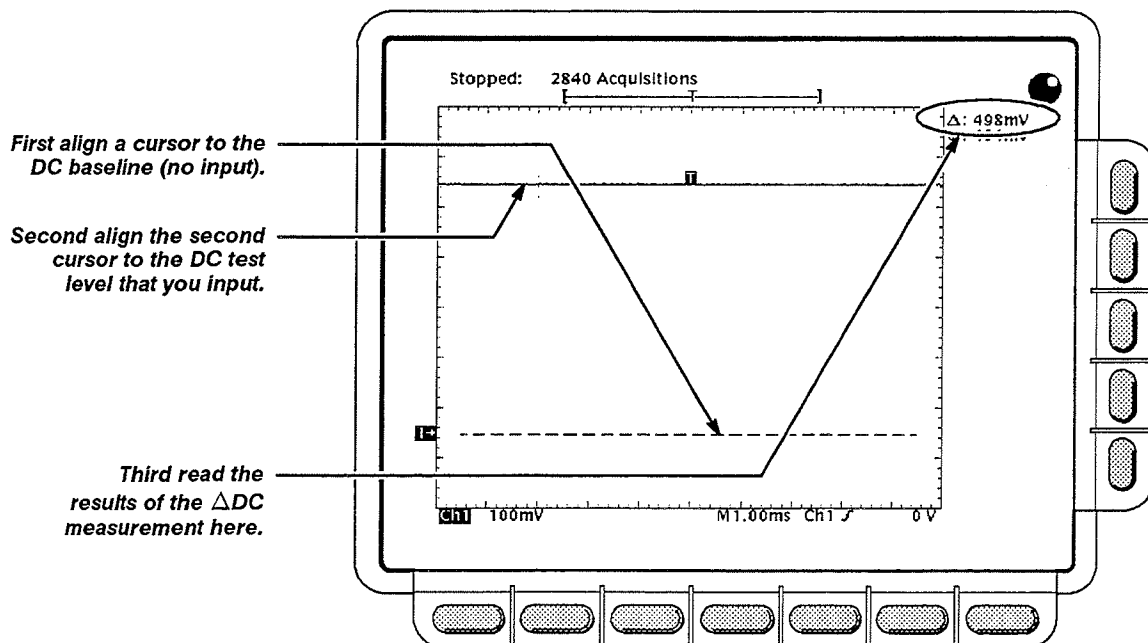

Figure 4-6: Measurement of the DC Accuracy for Delta Measurements
- Press **CLEAR MENU**. Read the measurement results from the delta (Δ) readout, not the absolute (@) readout. See Figure 4-6.